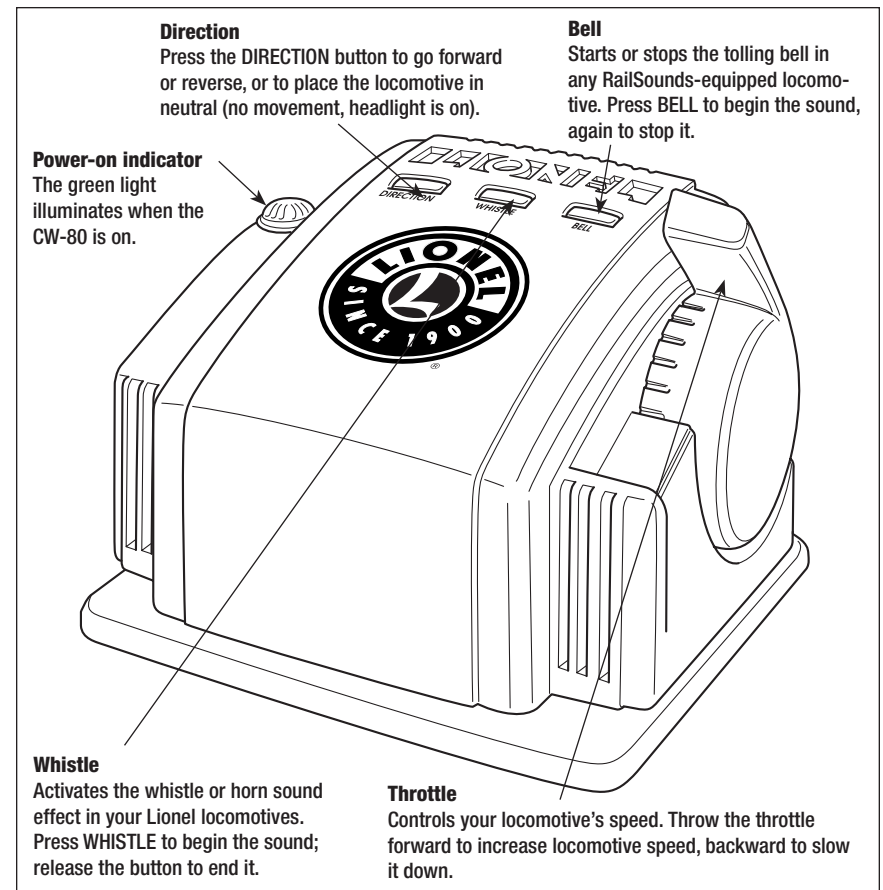

Figure 6. Transformer features
Refer to Figure 6 on page 10 for the location of the Transformer features listed in this section.
- 3. Press and hold down the DIRECTION, WHISTLE, and BELL buttons on the Transformer. Refer to Figure 6 on page 10 for the location of these buttons.**